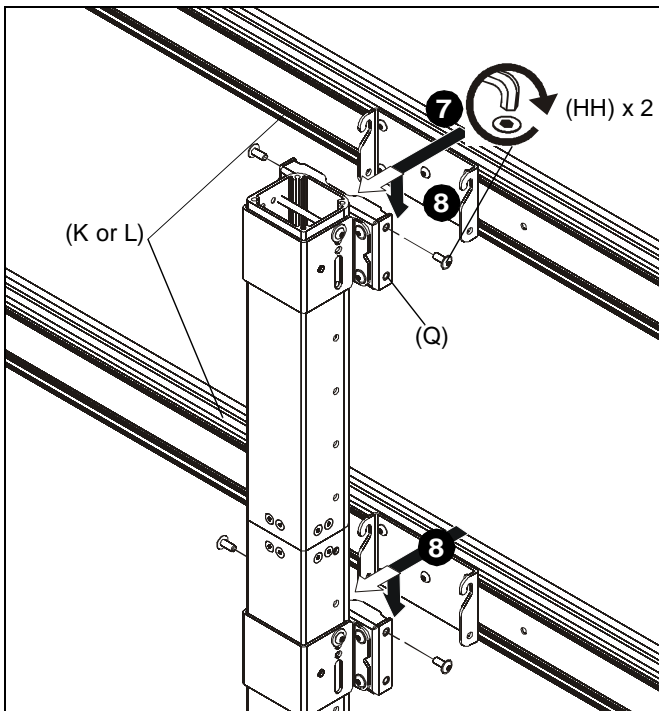

Figure 6
7. Install two 5/16-18 x 3/4" button head flange screws (HH) into the top holes on each quick connect base (Q). (See Figure 6)
8. Hang rails (K or L) into screws installed in previous step to quick connect bases (Q). (See Figure 6)